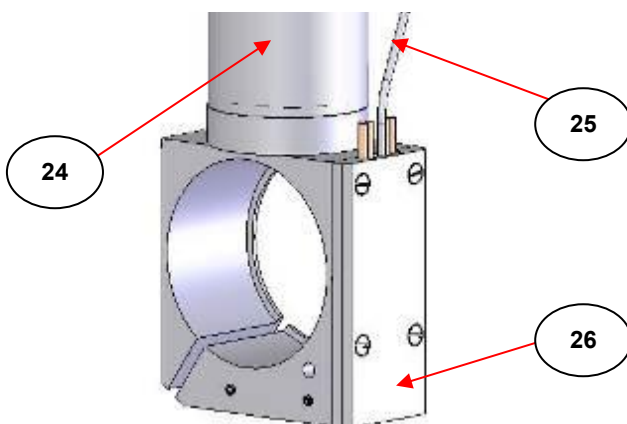

Fig 7. VT Cell GS21525 Cell Holder Detail for Controlling Thermocouple Connection
A copper/constantan (Cu/CuNi) T-type thermocouple (25) is used for control measurement of temperature. It passes through port (18) on the top plate and it is permanently fixed in place with its junction end located in the middle of the two cell holder heaters (26). (See Fig 7.)